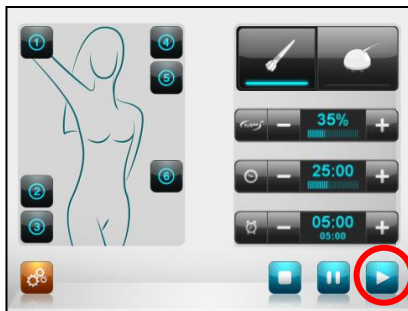

Figure 5-13: Treatment Screen
Once **Treatment Time** and (MP)² **Output Power** parameters are set, the operator should hold the selected Applicator and press the **Start** button located in the lower right corner of the **Treatment Screen** (figure 5-13, circled in red). This will emit RF via the selected Applicator, and the treatment can begin.